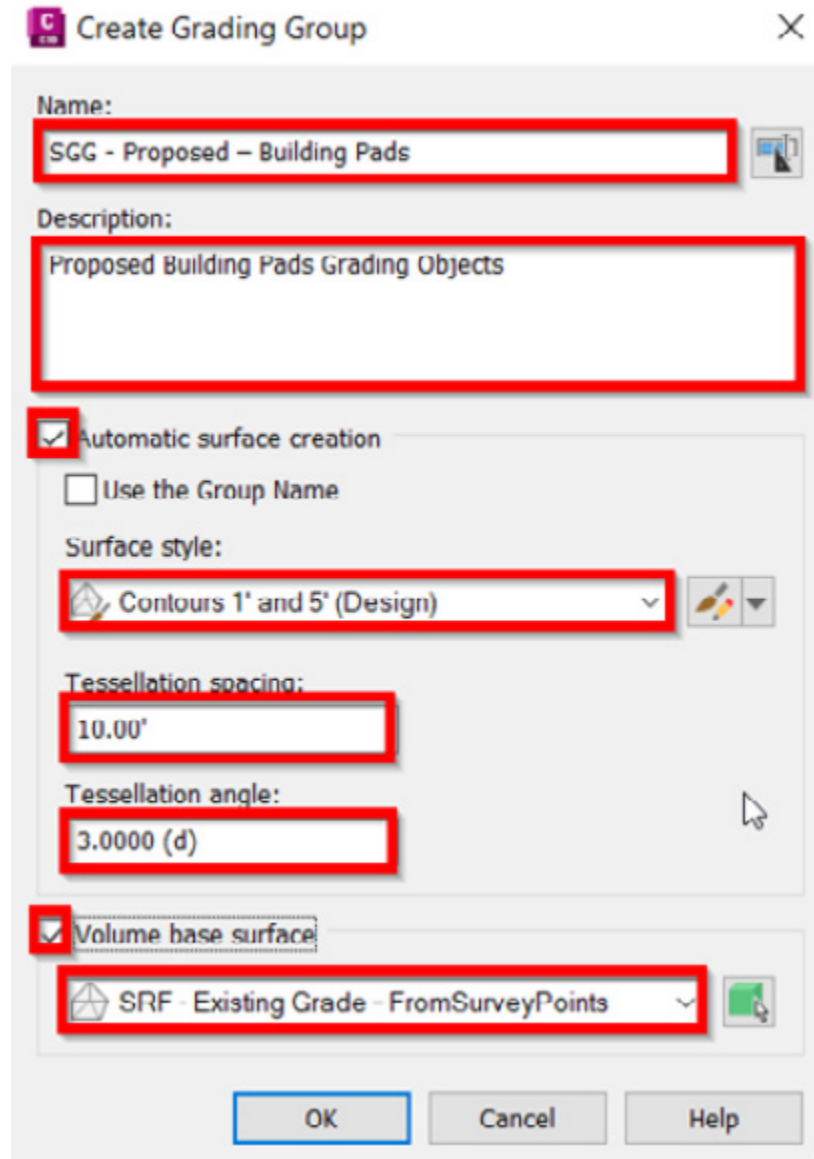

Figure 9.32 – Create Grading Group dialog box
4. Once the **OK** button has been selected, a **Create Grading Group** dialog box should appear. Let's go ahead and fill out the following fields and make the following selections (also shown in *Figure 9.32*), and then click the **OK** button toward the bottom of the dialog box: